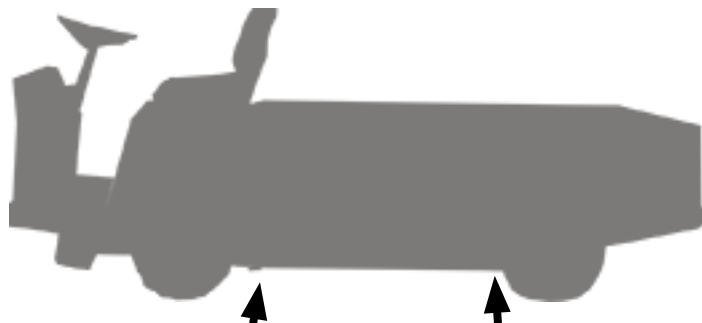

Figure 13: Position the jacks or jack stands securely under the frame.
Lifting the front: To remove a front wheel or axle: First chock the front and rear of the rear tires. Loosen the front wheel hardware. Position the jack in the location indicated in Figure 13 below and carefully raise the front of the vehicle, taking care that the rear wheels do not move. Position jack stands in the locations indicated and slowly lower the vehicle to rest on the jack stands and test the stability of the vehicle.
1. Position the jack in the proper position (Figure 13)